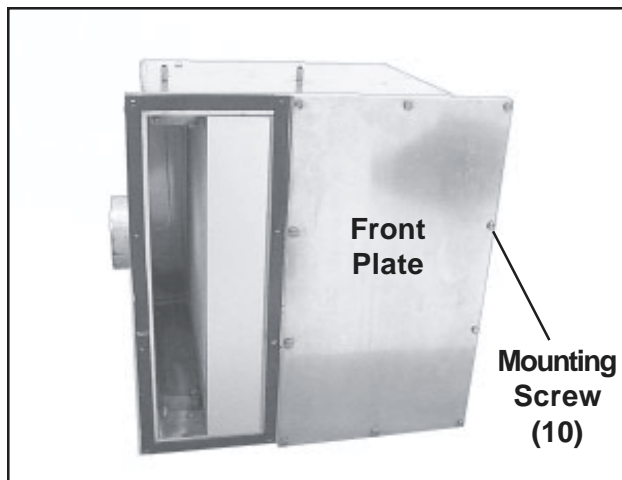

Figure 107. Blower Box Front Plate
A front plate is mounted on each blower box (Figure 107). The two plates are identical and either can be used on either box. These removable plates provide access to the interior of the blower box for servicing the motorized impeller.
8. With a 7/16 in. wrench, remove the ten mounting screws holding the plate to the blower box (Figure 107), and remove the plate.
2. Fasten the plate to the blower box with the ten mounting screws removed earlier (Figure 107).
**Vibro-mount (8)